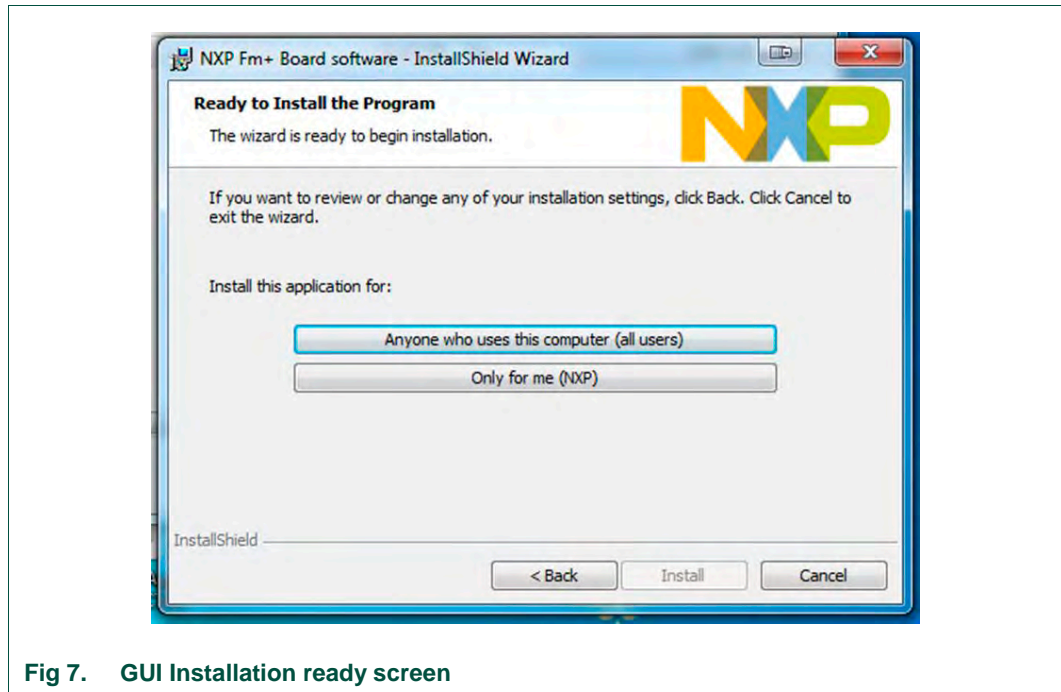

Fig 7. GUI Installation ready screen
7. Click Anyone and then Install on the ready screen, Fig 7.